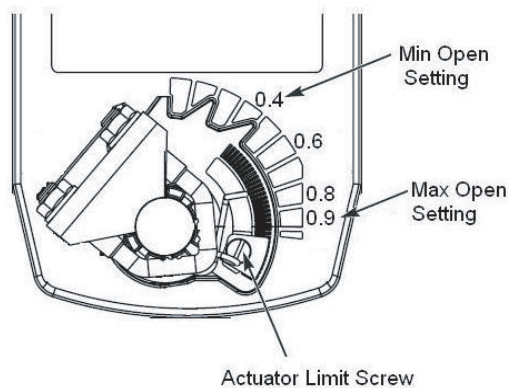

Fig. 5 - Actuator Limit Screw
6. Adjust the actuator limiter to limit the maximum open position of the damper to the amount of desired ventilation air from Step 2 using method 1 or method 2 below. The adjustment is made by setting the set screw on the end of the actuator to the desired position. Tighten screw firmly to hold in place. (See Fig. 5.)